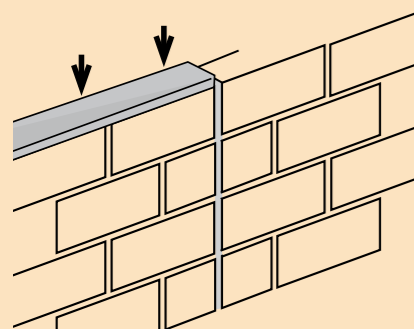

Fig. 3
- Change of loading (See Figure 3)